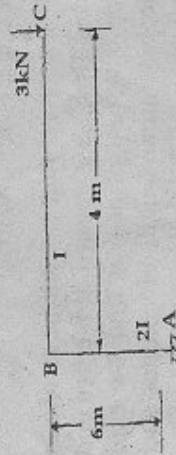

Fig. 1.4
- (b) Using method of virtual work, find the horizontal deflection of the free end of the frame shown in Fig.1.4. $E = 250 \text{ KN/mm}^2, I = 40 \times 10^6 \text{ mm}^4$. 10